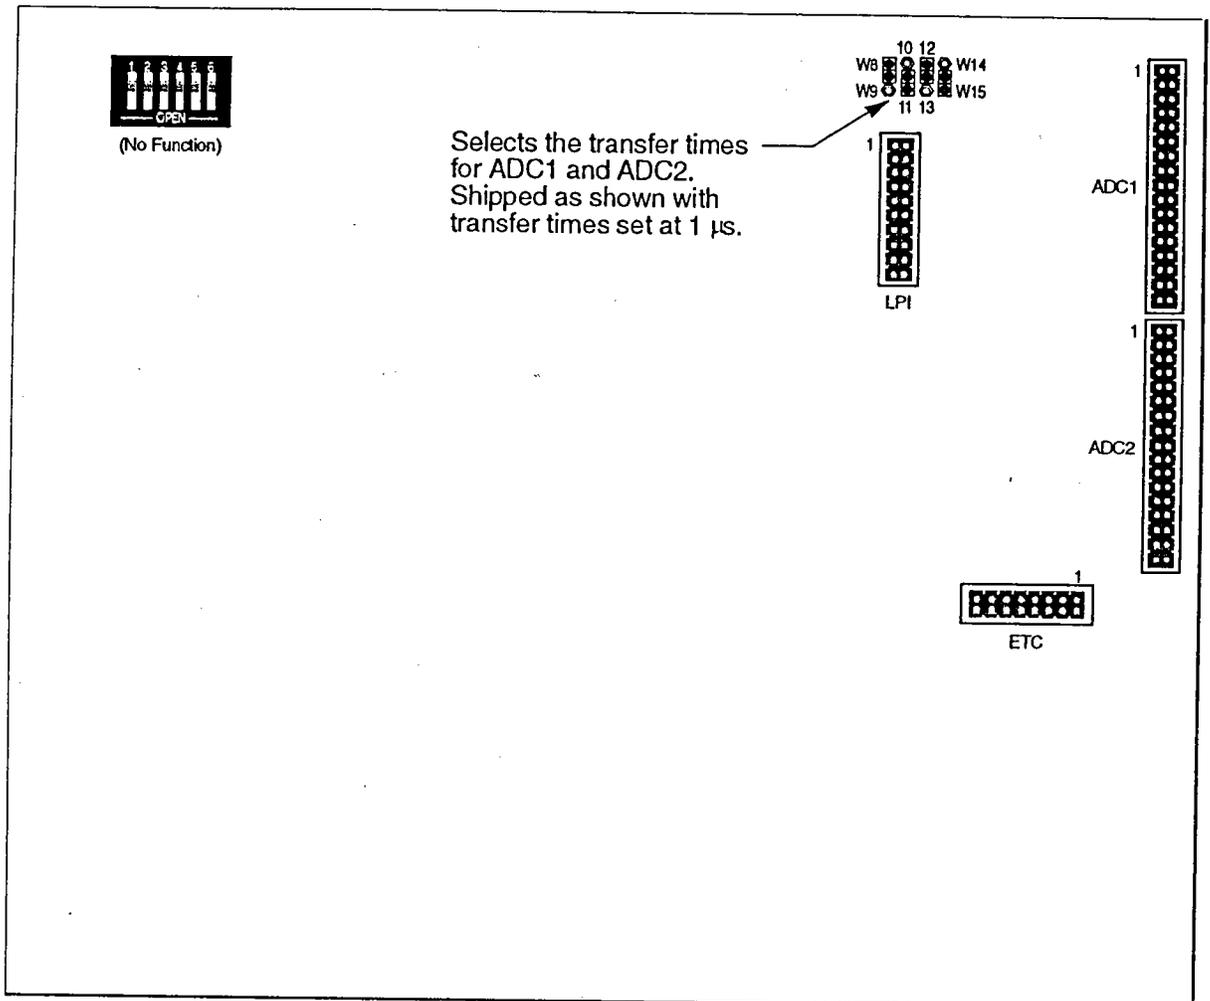

Figure 2.3 Internal Controls
1. When the AIM is shipped from the factory, the transfer times for both ADCs are set at 1  $\mu$ s. This will allow a maximum cable length of 4.5 m (15 ft). If these are the desired settings, go to step two. If you'd like to change the transfer time settings, remove the right side-panel from the 556. Referring to Figures 2.3 and 3.1, change the appropriate jumpers on the board.